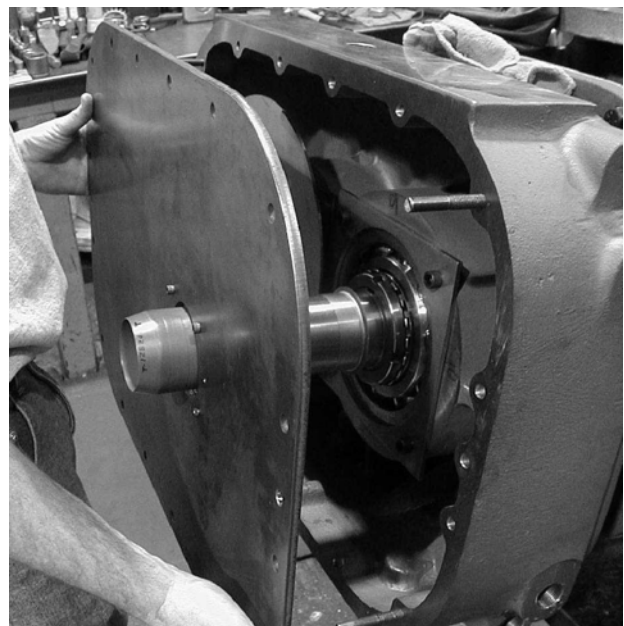

FIGURE 21
21. Check the shaft extension and keyway for burrs. Cover the shaft and keyway with the thin protective installation sleeve. Push the oil seal (26) into the seal adaptor (25). Install the seal adaptor gasket (58), seal and adaptor to the end cover (14) using four screws (46) and two dowels (43). Slide the end cover assembly over the shaft extension (FIGURE 21) and mount the cover to the bearing carrier with screws (52) and washers (54). Remove the protective installation sleeve. Drive dowels (44) into end cover/bearing carrier holes. Install drive key (42).